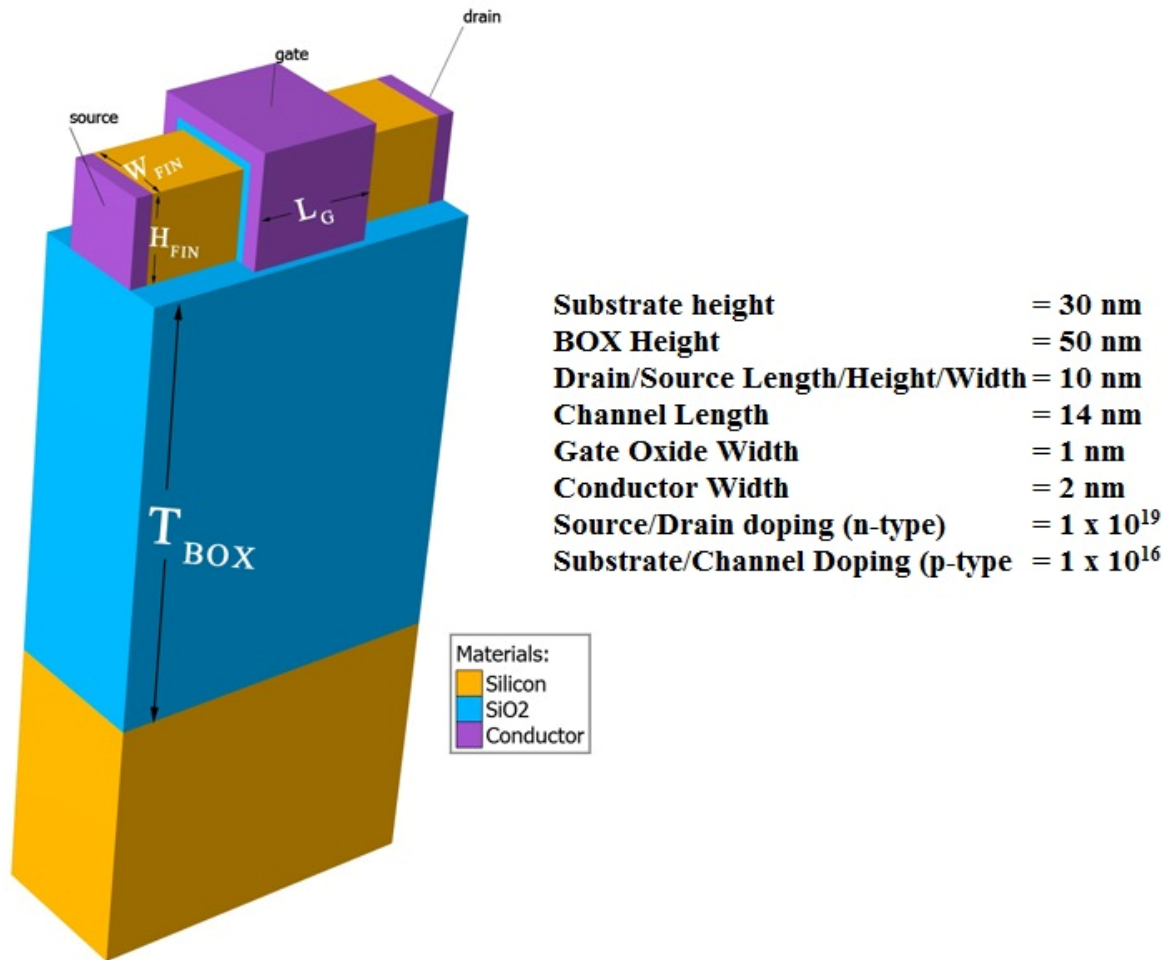

Fig. 03
- Develop the structure of a SOI n-type Tri-gate FinFET at 14 nm technology node with the specifications given in Fig. 03.